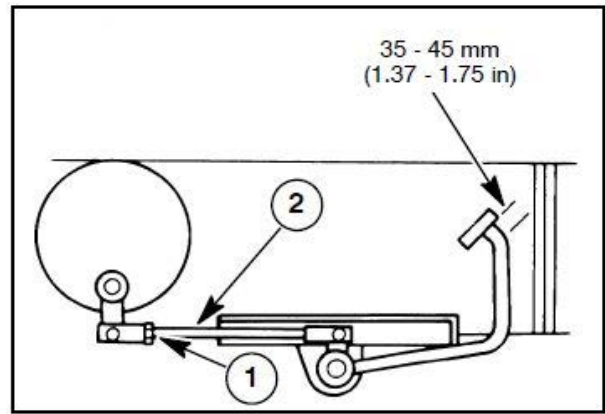

Figure 3-49
1. Loosen the locknut (1) in Figure 3-49, and rotate the brake rod (2) in Figure 3-49, until there is 35 - 45 mm of pedal free play. Lengthening the rod increases free play; shortening the rod decreases free play.